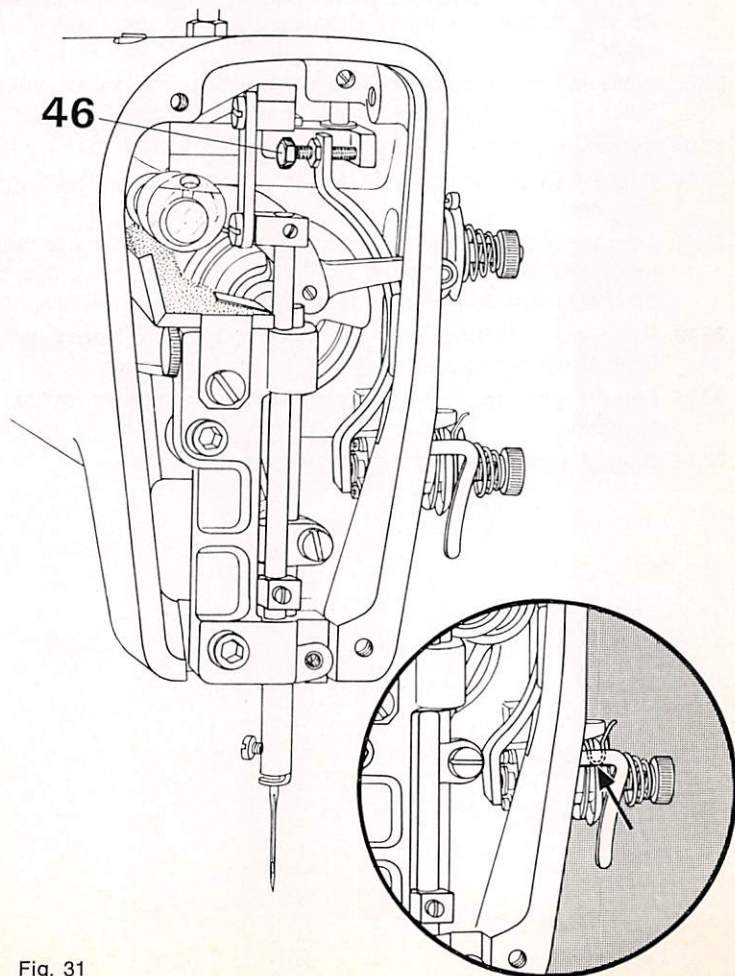

Fig. 31
- 31. Adjusting the tension release lever (Fig. 31)**